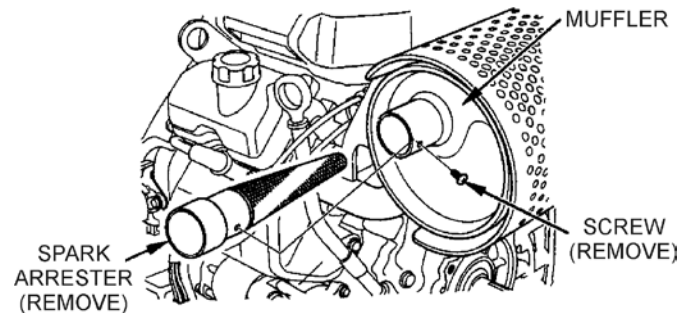

Figure 42. Removing Spark Arrester
1. Remove the special screw from the muffler and remove the spark arrester (Figure 42).